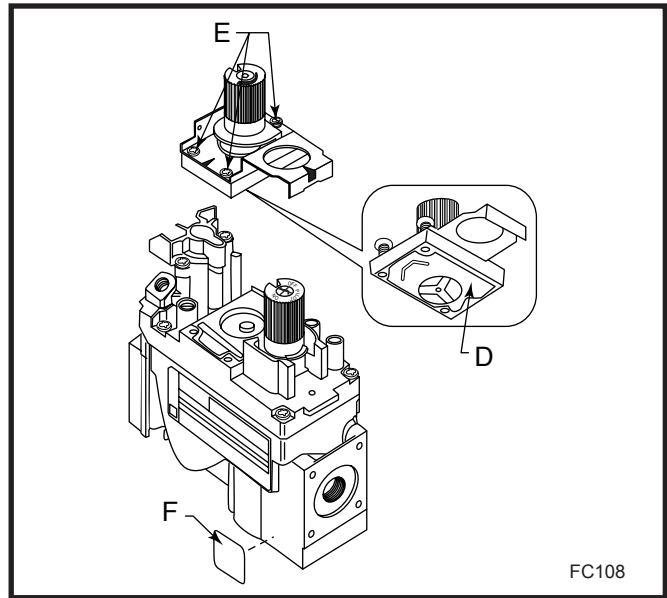

Fig. 56 Replace regulator.
2. Insure the rubber gasket (D) is properly positioned and install the new HI/LO pressure regulator assembly to the valve using the new screws (E) supplied with the kit. Tighten screws securely. (Fig. 56)